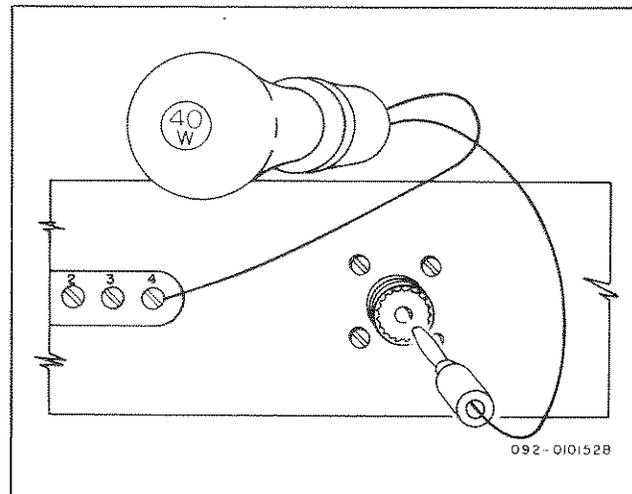

Figure 6. Light Bulb Used as Dummy Load.
1. 50-ohm, non-inductive dummy load or a 40-watt light bulb (see figure 6).